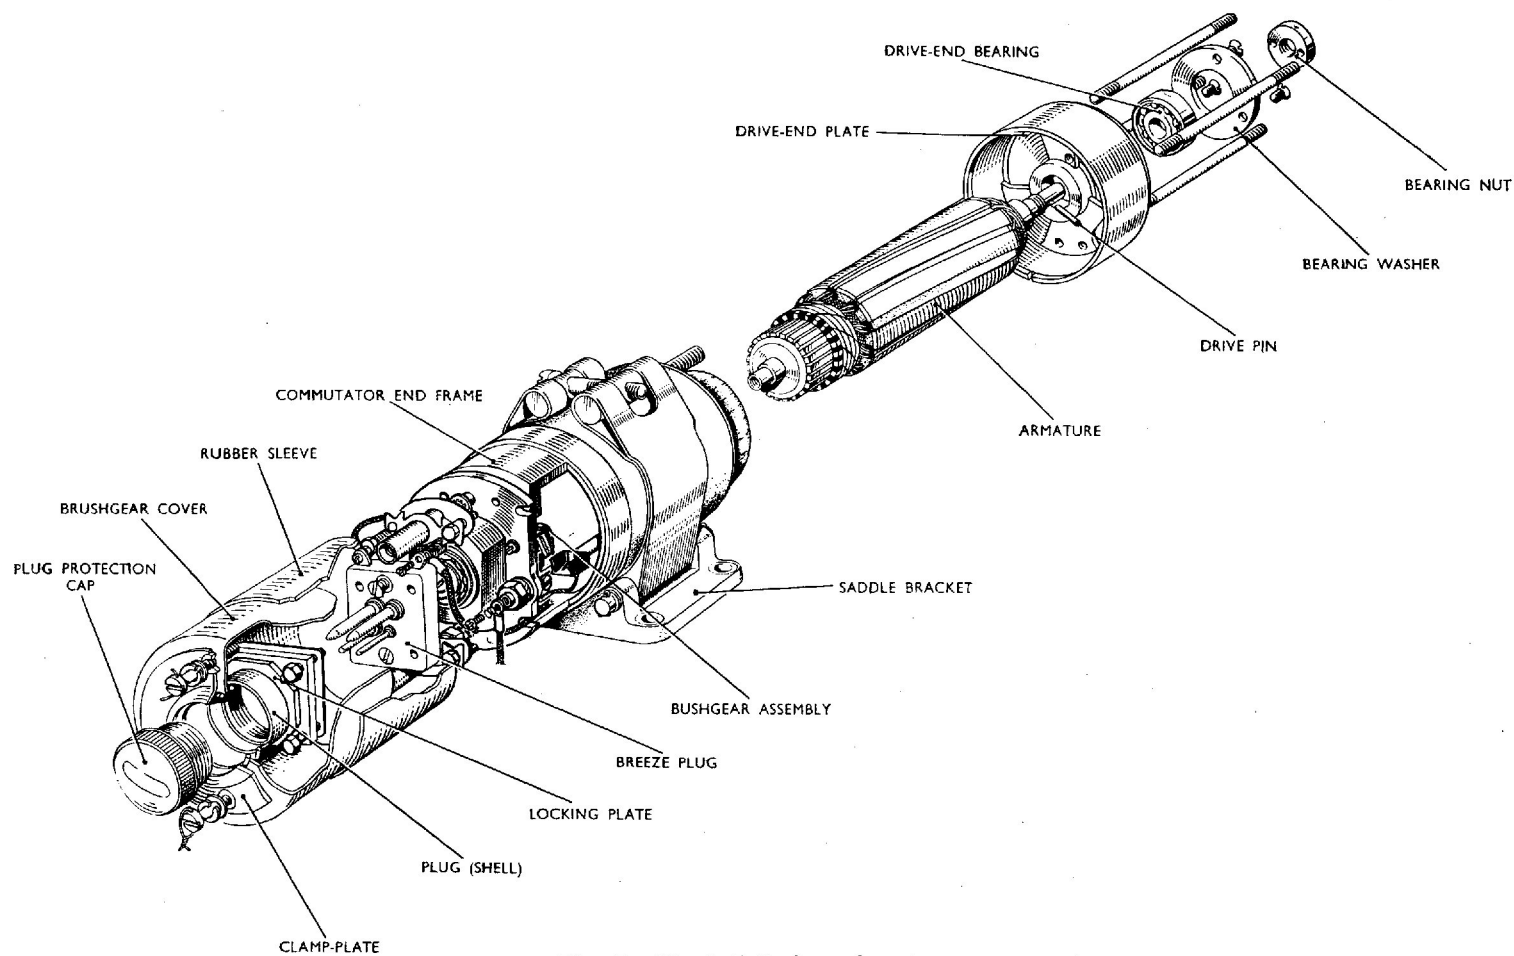

Fig. 7. Exploded view of motor
11. The 24V d.c. driving motor, fig. 7 is of the flame-proof, totally-enclosed type, having a long shunt compound winding. It is designed to give its rated output on 25V supply